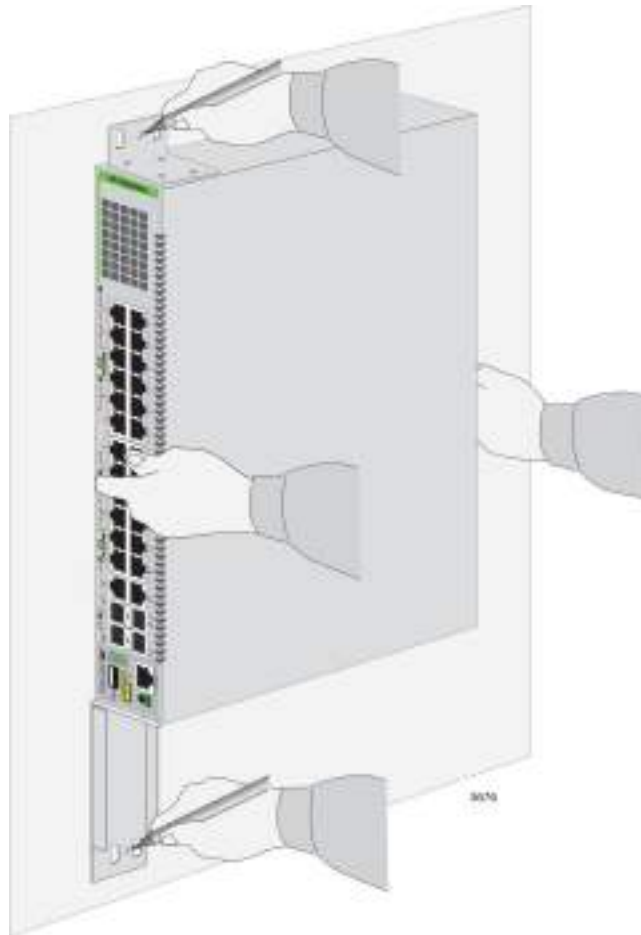

Figure 27. Marking the Locations of the Bracket Holes on a Concrete Wall
5. Have another person hold the switch on the concrete wall at the selected location for the device while you use a pencil or pen to mark the wall with the locations of the two screw holes in the brackets. See Figure 27. Be sure that the selected location adheres to the recommendations in “Recommended Minimum Wall Area Dimensions” on page 69.